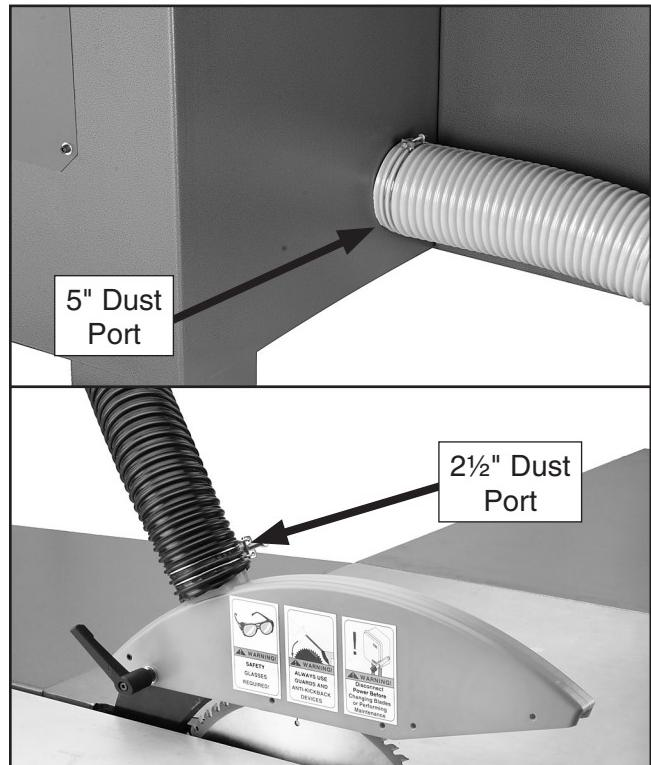

Figure 47. Dust port locations.
1. Run a 5" hose from the dust collector to the dust port located under the saw table (**Figure 47**) and secure it with hose clamps.
2. Install the blade guard/dust hood on the riding knife with the adjustable handle and flat washer as shown in **Figure 47**.
3. Run a 2½" hose from the dust collector to the blade guard port (**Figure 47**) and secure it with hose clamps.